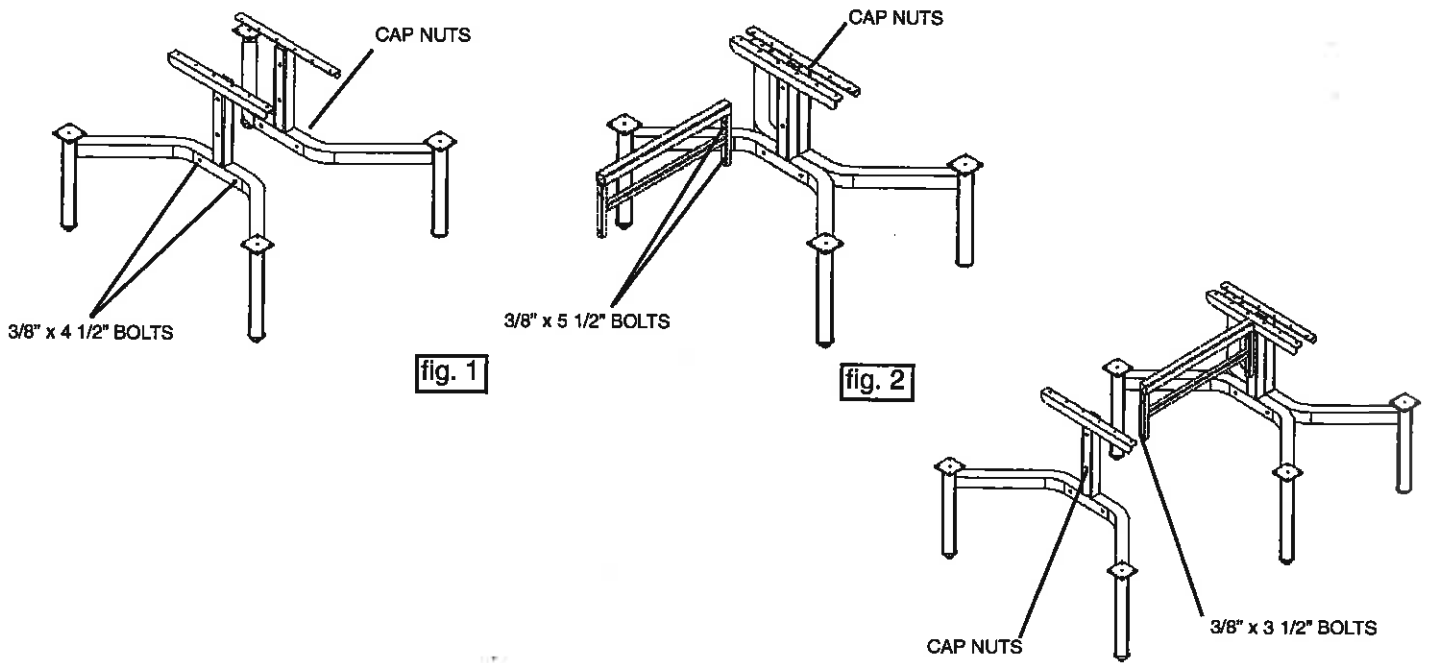

fig. 3
3. Repeat step two for opposite end of coupling using 3/8" x 3 1/2" bolt. (fig.3)